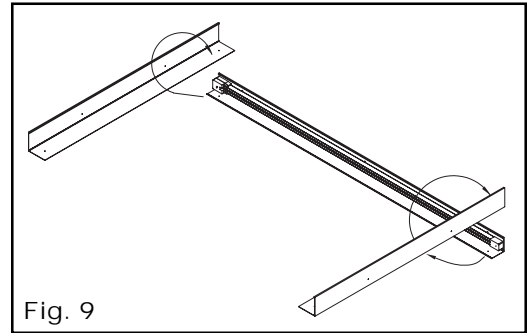

Fig. 9
8. Place the assembly of track and track mounting onto end supports as shown in **Fig. 9**.